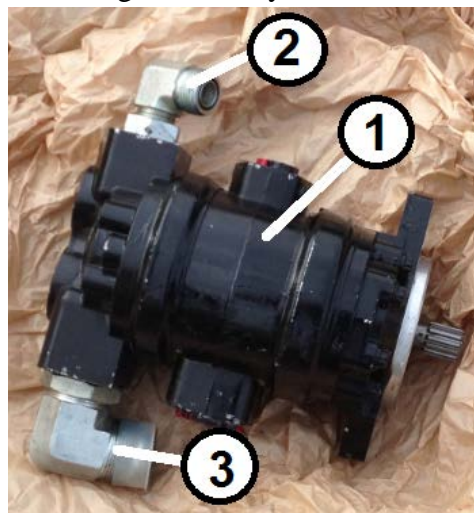

Figure 43. Hydraulic Pump Assembly
Install merger hydraulic pump with original o-ring and reuse two (2) M12x35 bolts. Orient the pump such that the suction ports are facing the right side of the machine. See Figure 43.
Install Suction lines on the right side of RCI auxiliary hydraulic pump to tank ports. The original hydraulic suction hose for the auxiliary pump of the base machine is replaced with a new hose and is routed from the rear right port of the pump to the original back right port of the tank shown in Figure 43. The hose removed should be saved with the original charge pump for the customer.